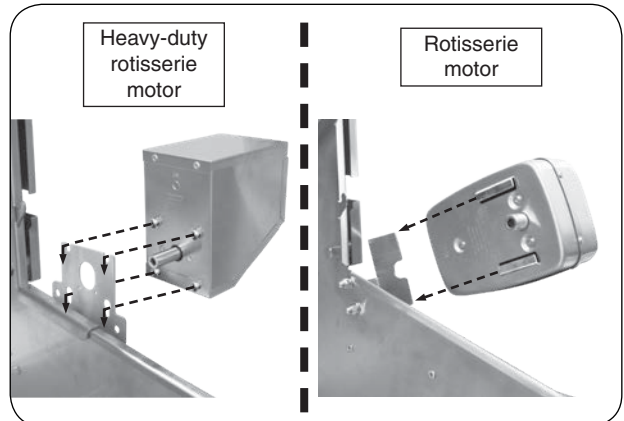

Fig. 28-2 Install rotisserie motor
2. Slide the rotisserie motor fully onto the motor bracket located on the right side of the grill (see Fig. 28-2) and connect it to a power source (do not turn on).